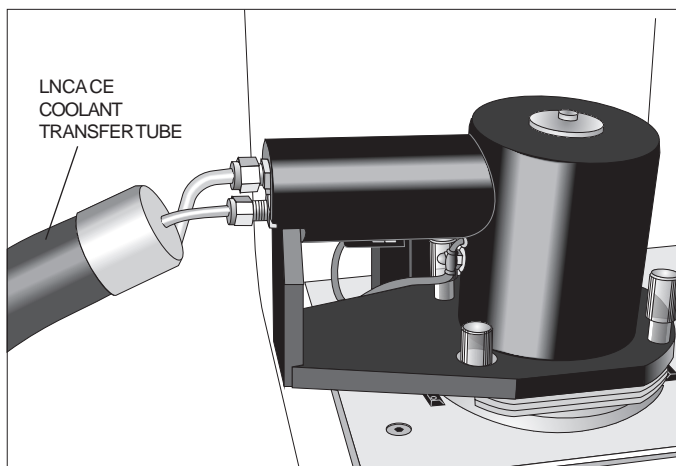

Figure 2.15
2. Connect the LNCA CE coolant transfer tube from the LNCA CE feed valve marked “COOLANT” to the stainless steel union on the heat exchanger end plate (see Figure 2.15).